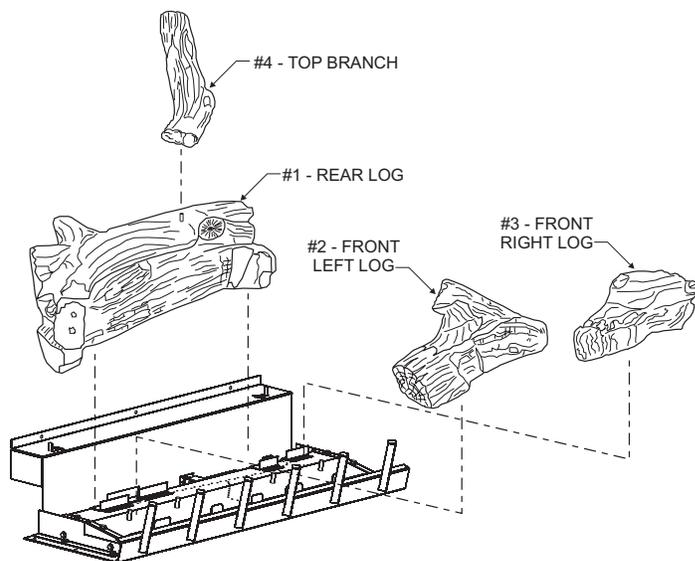
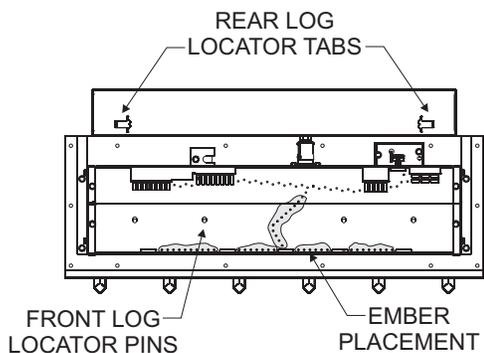

Figure 20
Figure 18
The positioning of logs is critical to safe and clean operation of this fireplace. Sooting and other problems may result if the logs are not properly and firmly positioned in the fireplace. Please refer to **Figure 18**, **Figure 19**, and **Figure 20** and corresponding WARNING, when completing the following log placement steps.
9. After all logs are properly positioned, place small "dime" size pieces of Rockwool lightly across the front round "blueflame" ports. Place the ember material (Rockwool pieces) side by side. Do not stack more than one layer of embers across the burner ports. **See Figure 18.**